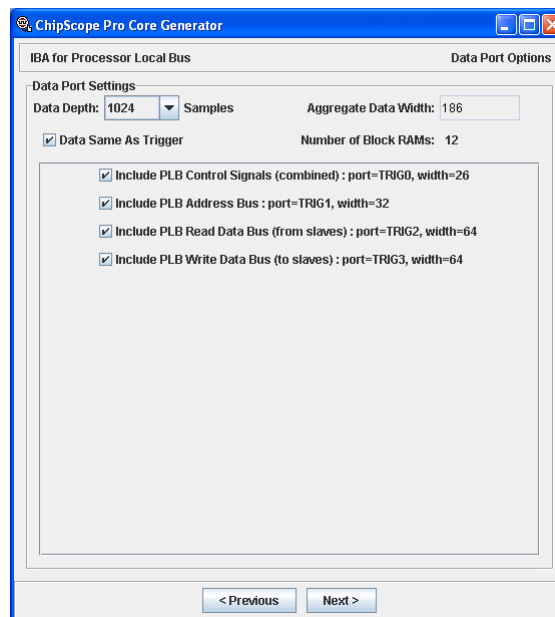

Figure 2-30: IBA/PLB Core Data Same As Trigger Options
- **Data Same as Trigger (Figure 2-30)**